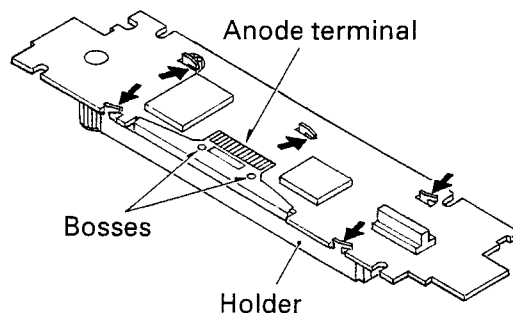

Fig.3
1. Apply hot air to the cable pins for the anode terminal using a blower used for removing a flat-packaged IC or something like that. When all the pins are peeling off from the PCB, pinch the cable with a pair of tweezers and remove it slowly from the PCB. (Fig.3)
2. Five tabs are extended until becoming straight in the direction of the arrow and then remove the Holder. (Fig.3)
6. Install the Holder. (Fig.3)
7. When soldering the flexible cable for the Anode terminal on the PCB, first, insert the Bosses on the PCB into the 2 holes in the flexible cable. Then, take the same procedures 2 and 3 as that for the Cathode terminal to solder the cable pins. (Fig.3)